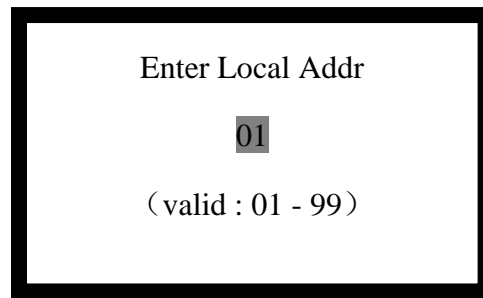

Fig. 4-27
- Selecting "3.Local Addr" and entering the user password shows the screen of Fig.4-27. Enter the actual value (if the entered value is illegal, it cannot be saved). Press **Menu/Enter** to save the modification and exit. Press **ESC** to cancel the operation.